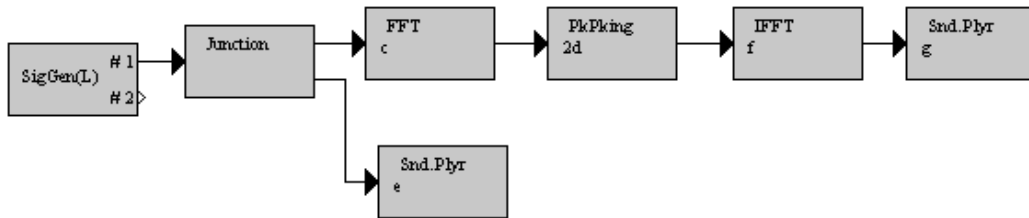

Figure 2.2: Peak Picking Analysis & Synthesis simulation diagram in J-DSP.
**Step 2 (User-2):** Click on the [LoadScript] button in the J-DSP editor frame window. Run the entire male speaker signal in the **SigGen(L)** dialog window by pressing the “>>|” button. Click on the [Play] button of the **Snd.Plyr** block to listen to the original male speaker signal generated by **SigGen(L)**. Append the Inverse FFT block, **IFFT** and another **Snd.Plyr** block as shown in Figure 2.2, to complete the synthesis part. Open the dialog window of the **Pk Pking** block.